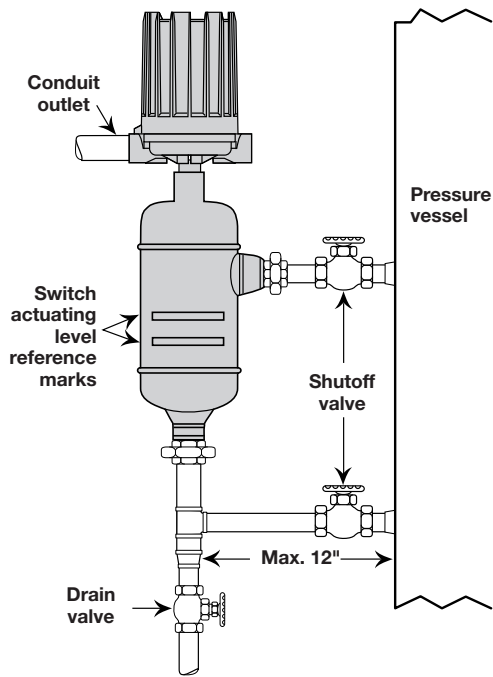

Figure 3
Figure 3 shows a typical piping installation of a MAGNETROL Series 3 control to a pressure vessel. Level decals on control identify the actuation levels for the bottom switch mechanism of a unit with three switches at minimum specific gravity. Charts defining actuation levels for a unit with one switch at different specific gravities can be found on pages 23–24, *Actuating Levels and Specific Gravities*, Section 5.2.3.
- 5b. Close shut-off valves (if so equipped) to isolate control from tank. Drain off liquid in float chamber. Refer to **Figure 3** on page 5.